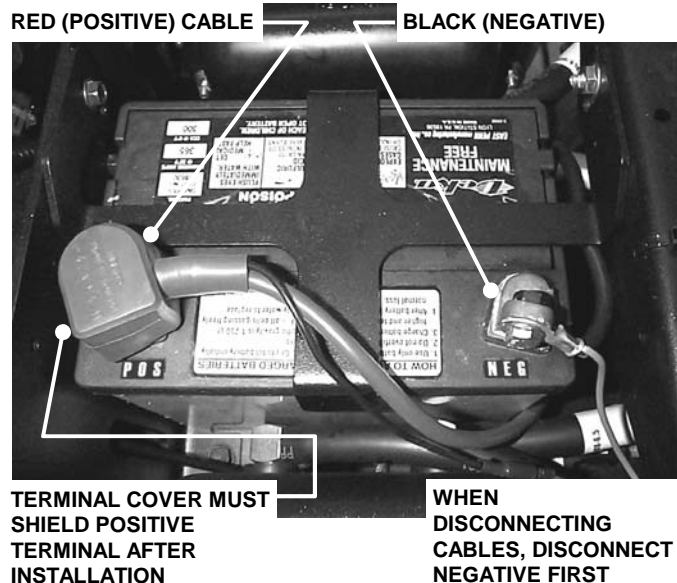

FIGURE 5.18
2. Connect cables to battery terminals. Connect RED (Positive) cable first. Connect BLACK (Negative) cable last. See Figure 5.18.